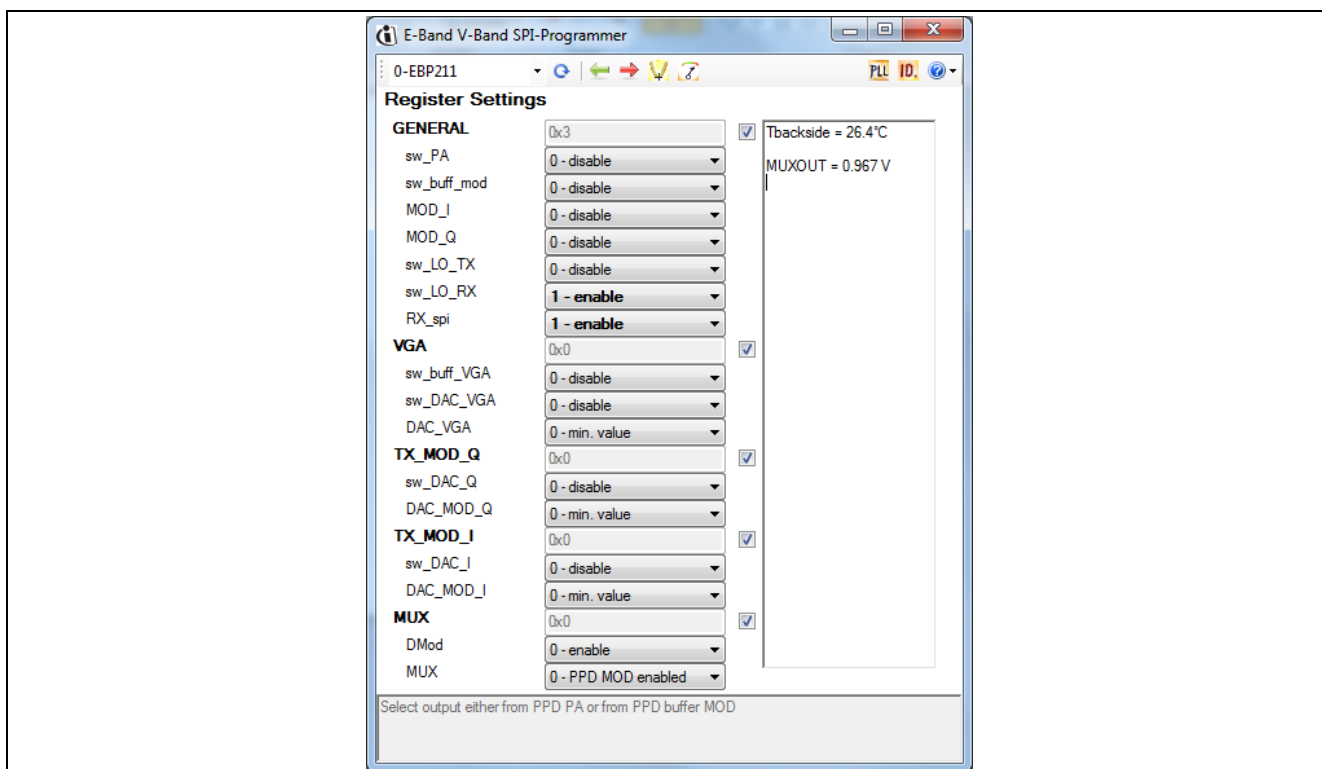

Figure 52 Typical Receiver Settings for BGT70
- 2) Then in the main window enable the registers as shown in **Figure 52**. The supply current will jump to 427 mA.